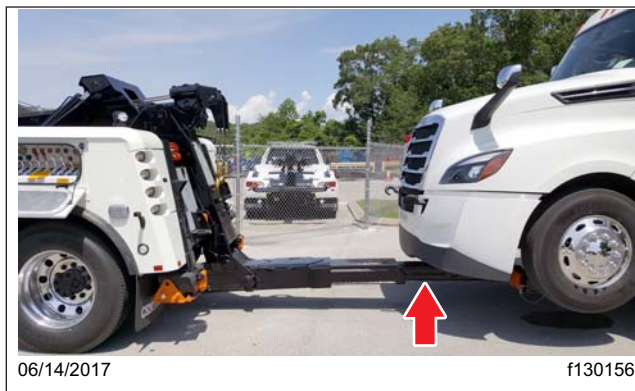

Fig. 24.16, Retracting the Recovery Boom
12. Remove the tow cables from the tow hooks and retract the recovery boom. See Fig. 24.16.